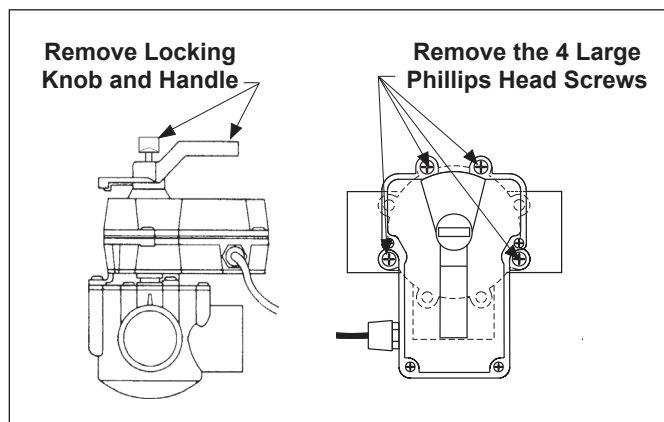

Figure 4. Remove Locking Knob and Lid Screws
1. Unscrew the locking knob by turning the knob counterclockwise. Remove the locking knob and valve handle (see Figure 4).
2. For standard valves, remove the four (4) large Phillips head screws from the valve. The location of the screws you remove will determine how the actuator will be mounted (see Figure 4). When installing the large 3" valve, it is not necessary to remove any screws. Use the four mounting bosses provided.